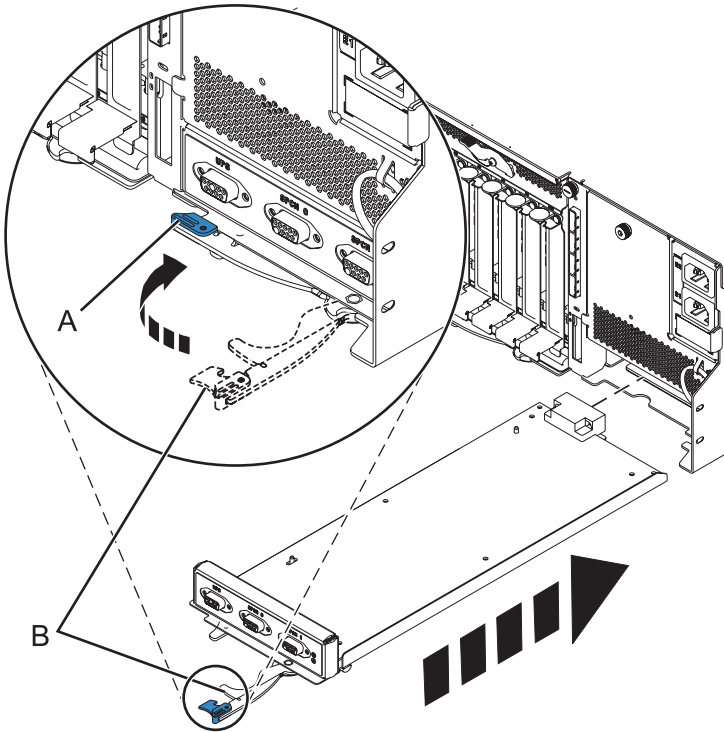

Figure 58. Replacing the enclosure management controller
- Carefully slide the enclosure management controller into the system and close the latch (A) as shown in Figure 58.